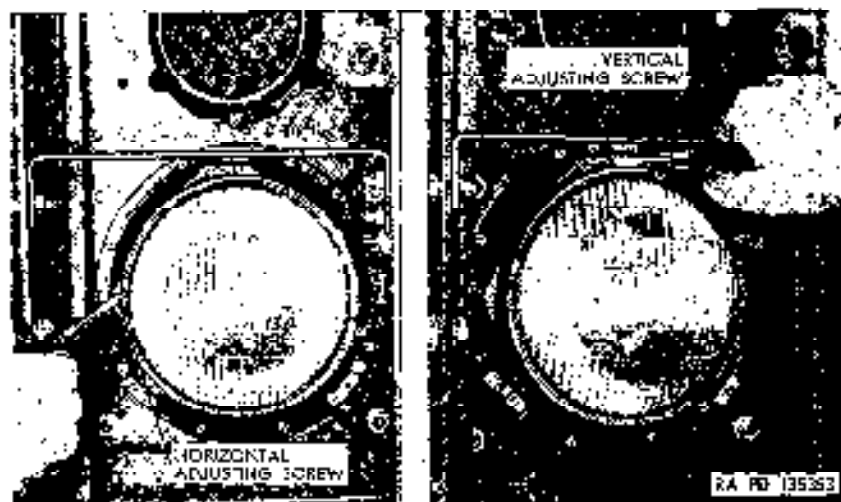

Figure 184. Adjusting Headlight.
- (1) *Specific gravity test.* The state of charge in each of the battery cells is determined by checking the specific gravity of the electrolyte (battery fluid) in the cells. Use a hydrometer and thermometer and correct hydrometer reading for temperature in accordance with table VIII. A corrected specific gravity reading of 1.285 in each cell indicates a fully charged battery. A specific gravity reading of 1.225 or less in each cell indicates that battery must be recharged or replaced.
- (2) *Voltage test.* Perform high-rate discharge test according to instructions accompanying test instrument.
- (3) *Adding water.* The water in the electrolyte solution will evaporate at high temperatures or with excessive charging rates. Inspect the electrolyte level and add distilled or clean water, when necessary, to bring electrolyte level to three-fourths of an inch above the separators.
- (A) *Cleaning.* The top of the battery must be kept clean. Tighten vent plugs and clean battery with a brush dipped in an alkaline solution such as ammonia or a solution of bicarbonate of soda and water. After foaming stops, flush top of battery with clean water. If terminals and cable clamps are corroded, disconnect cables and clean as described above for top of battery. Connect cables and waterproof battery terminals by packing with heavy asbestos grease, which is identified by the symbol GK.
b. *Removal.* Open battery compartment door (fig. 184). Loosen wingnuts on two battery box clamps (fig. 181) and unhook clamps from box. Pull battery box out onto step. To remove front battery, disconnect cables (4, 48, and 49, fig. 180) from positive (+) terminal post and cable (88, fig. 180) from negative (-) terminal post. To remove rear battery, disconnect cable (68, fig. 180) from positive (+) terminal post and cables (7, 50, and 78, fig. 180) from negative (-) terminal post. Remove battery holddown frame and lift batteries, one at a time, from battery box.
c. *Installation.* Position batteries in battery box with positive (+) terminals of both batteries toward front of truck. Install battery holddown frame. Connect cables (7, 50, and 49, fig. 180) to rear-battery negative (-) terminal post. Connect cable (88, fig. 180) to rear-battery positive (+) terminal post and to front-battery negative (-) post. Connect cables (4, 48, 49, and 81, fig. 180) to front-battery positive (+) terminal post. Waterproof battery terminals by packing with heavy asbestos grease (GK). Slide battery box (fig. 181) into battery compartment, position battery box door, and tighten wing nuts on the two battery box clamps. Close battery compartment door (fig. 184). Test battery installation (d below).
adjusting screw (fig. 184) to change direction of beam vertically, and turn horizontal adjusting screw (fig. 181) to change direction of beam horizontally.